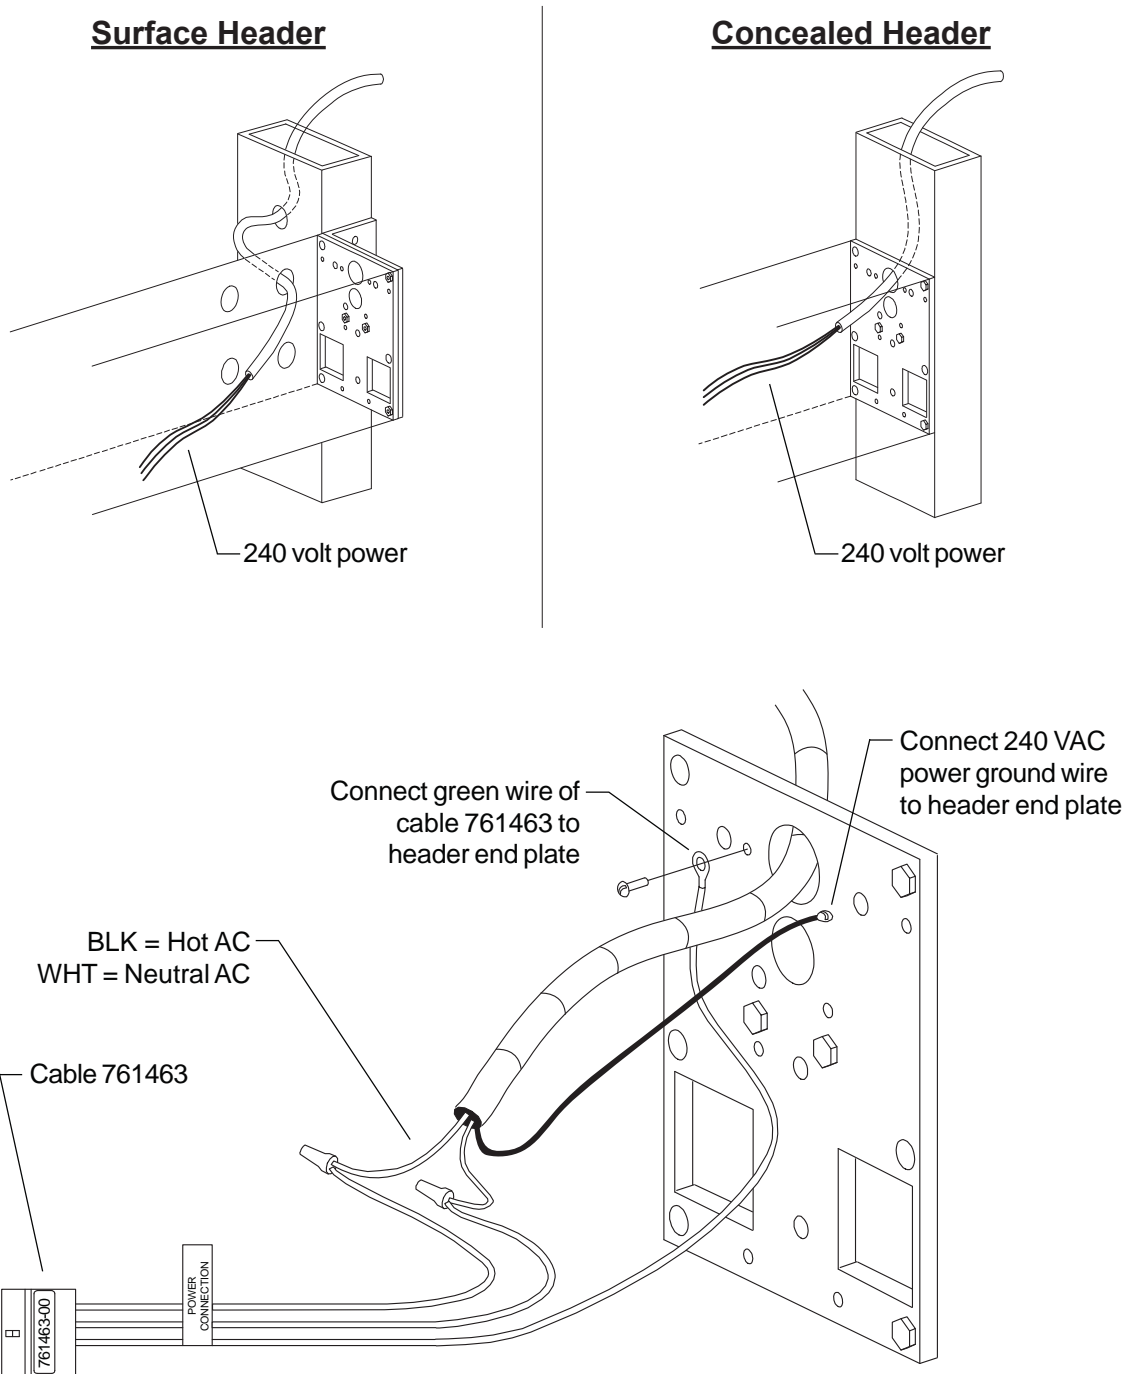

Figure 4-1
- 4.1. Connect the 240 volt power wires to the AC power cable (part number 761463) and header end plate as shown in Figure 4-1.